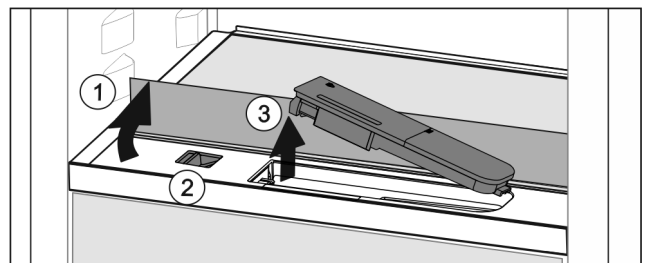

Fig. 45
- Lift the glass panel and fold towards the rear until it clicks into place Fig. 45 (1).
- Slide the slider Fig. 45 (2) to the left.
- Remove the water tank Fig. 45 (3).